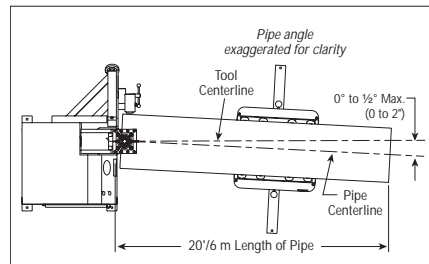

Figure 4 - Tracking Angle
5. Position the pipe stand approximately $0 - 1/2^\circ$ to the left for the tracking angle. Refer to Figure 4 below.